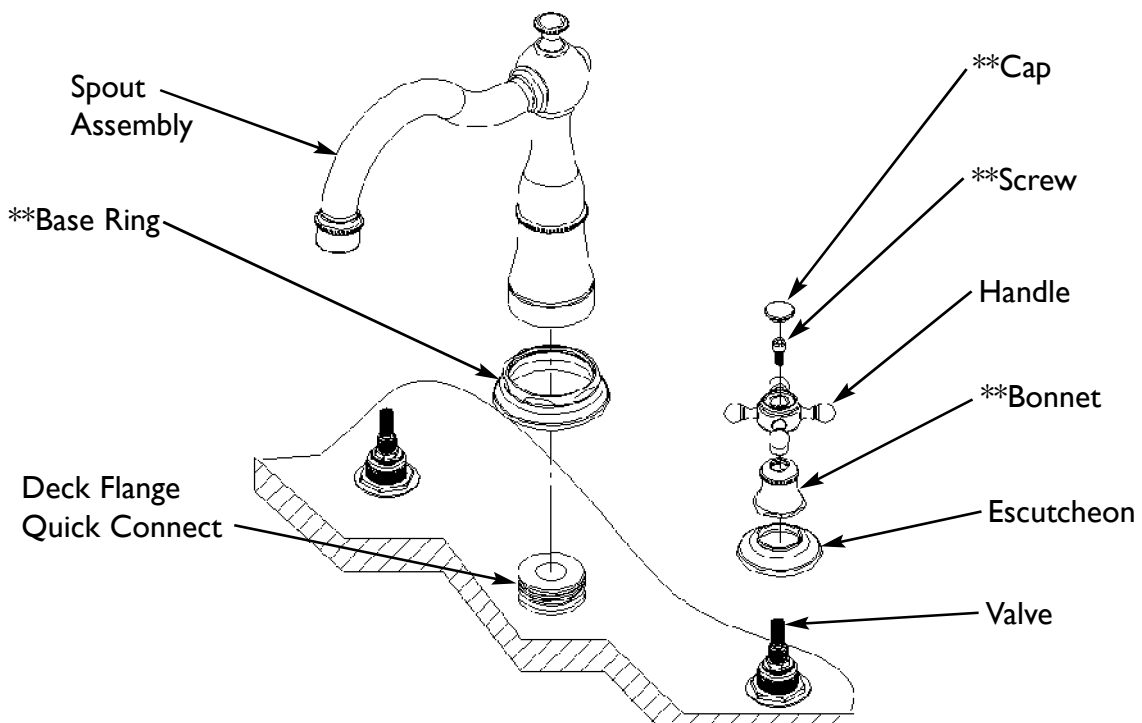

Figure 3
4. Attach handle trim to valve. When possible, any adjustments for rotational alignment should be made to the valve body - not to the cartridge. (Note: Allow minimum spacing between handles and escutcheon/bonnet to prevent damage to the surface finish.) Secure handles into place with screw and press cap into top of handle. See Fig. 3
5. Slide Base Ring** onto Spout Assembly, exposing the setscrew. Align and press spout assembly onto quick connect deck flange. Make sure spout is flush with deck. Secure spout onto quick connect with setscrew. See Fig. 3